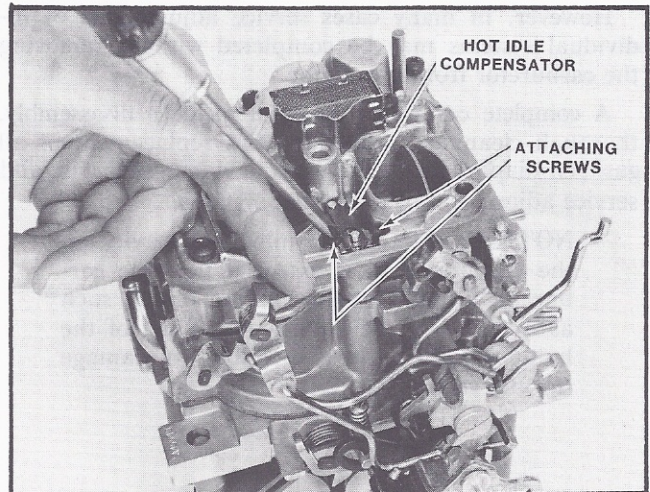

FIGURE 18 IDLE COMPENSATOR REMOVAL
8. If equipped, remove two (2) small screws that retain the hot idle compensator valve (Figure 18). Remove valve and seal from air horn. Discard seal.